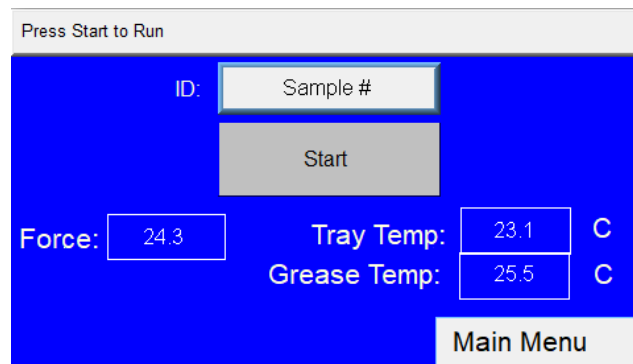

Figure 18 Sample Screen
5. Return to the Sample screen (shown below in Figure 18).